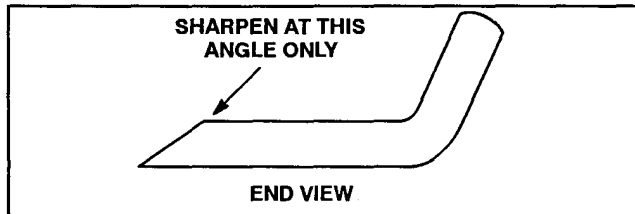

Figure 75
2. Inspect cutting edges of all blades. Sharpen the cutting edges if they are dull or nicked. Sharpen only the top of the cutting edge and maintain the original cutting angle to make sure of sharpness (Fig. 75). The blade will remain balanced if same amount of metal is removed from both cutting edges.